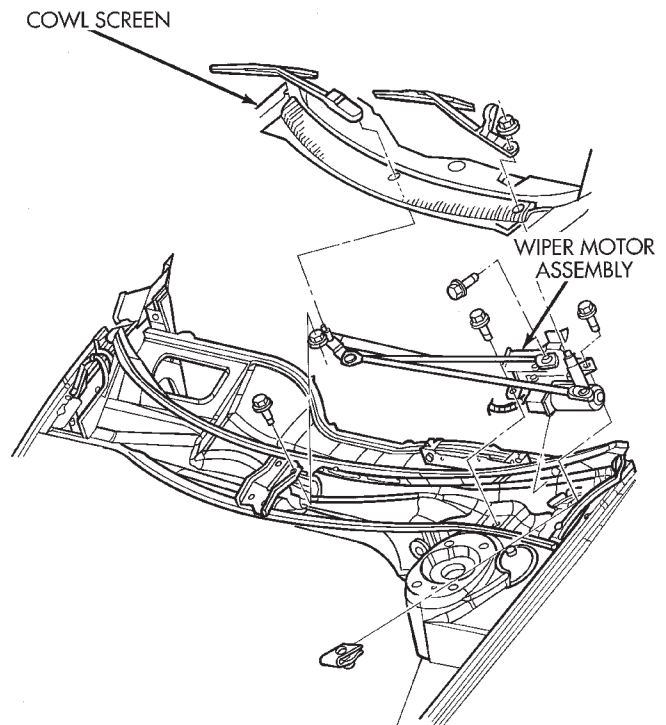

Fig. 16 Wiper Motor and Linkage Module
- (1) Remove wiper arms and blades (Fig. 16).
- (2) Remove the cowl screen.
- (3) Remove the four wiper motor mounting screws then lift assembly to gain access to clip.
- (4) Disconnect harness clip from the forward mounting leg.
- (5) Disconnect wire connector at motor and remove assembly.